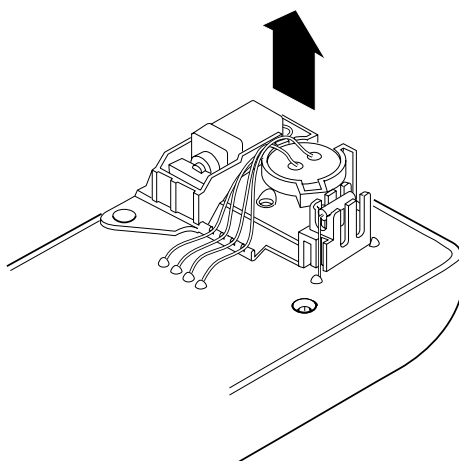

Figure 6: buzzer/vibrator removal
6. (Figure 6) Lift the vibrator/buzzer assembly from the RF PCB.